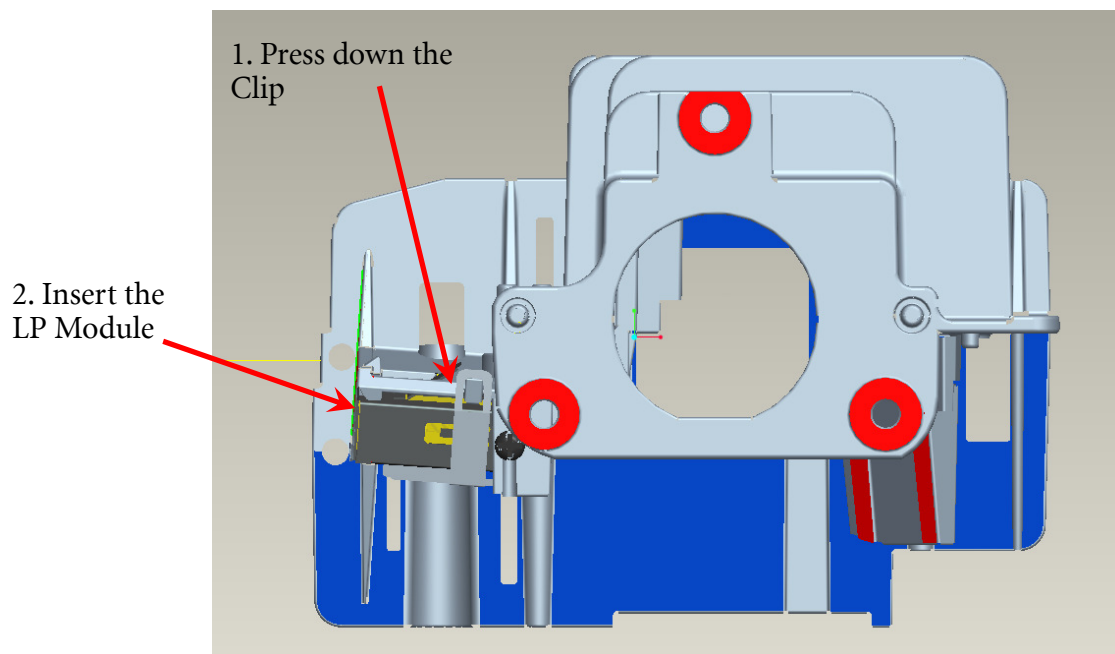

Fig. 1-3
- ii. Press CLIP of RE_BKT_LP first, and then push it into the hole (Fig. 1-3).